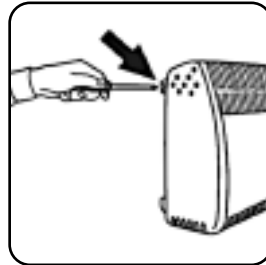

Figure 4
- Finally, secure the Utility Heater by means of the lateral screw which fastens the device to the holder (Fig 4).